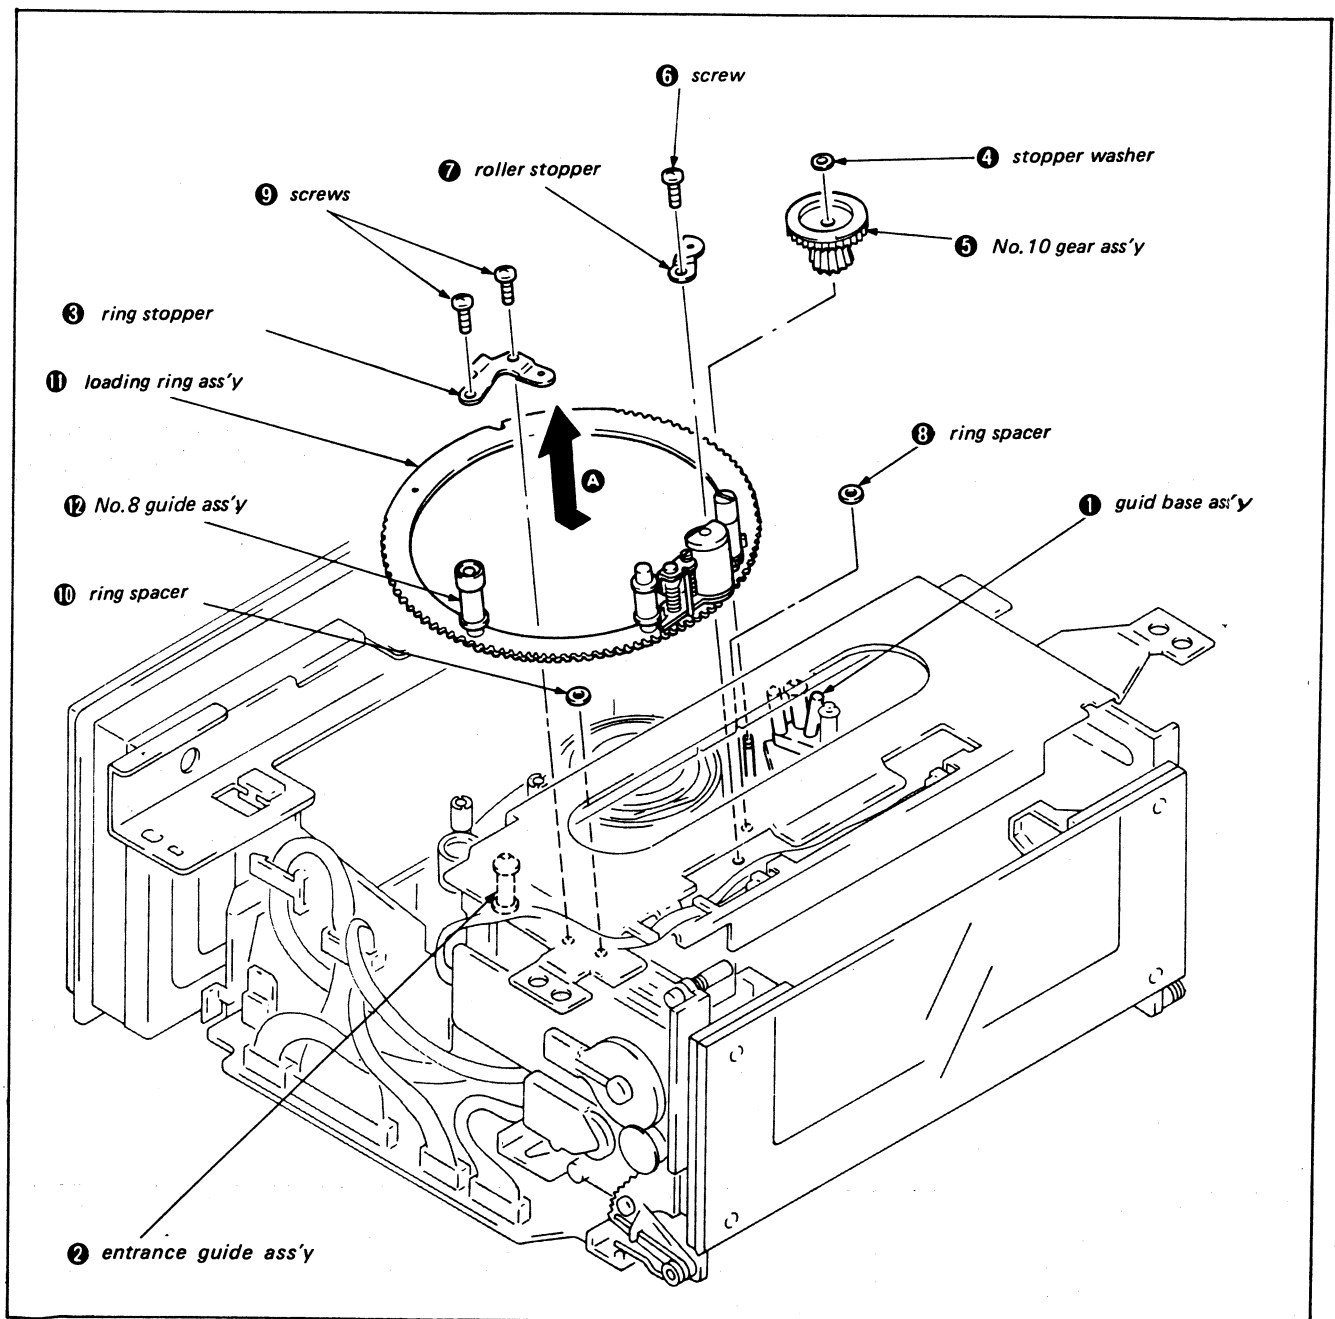
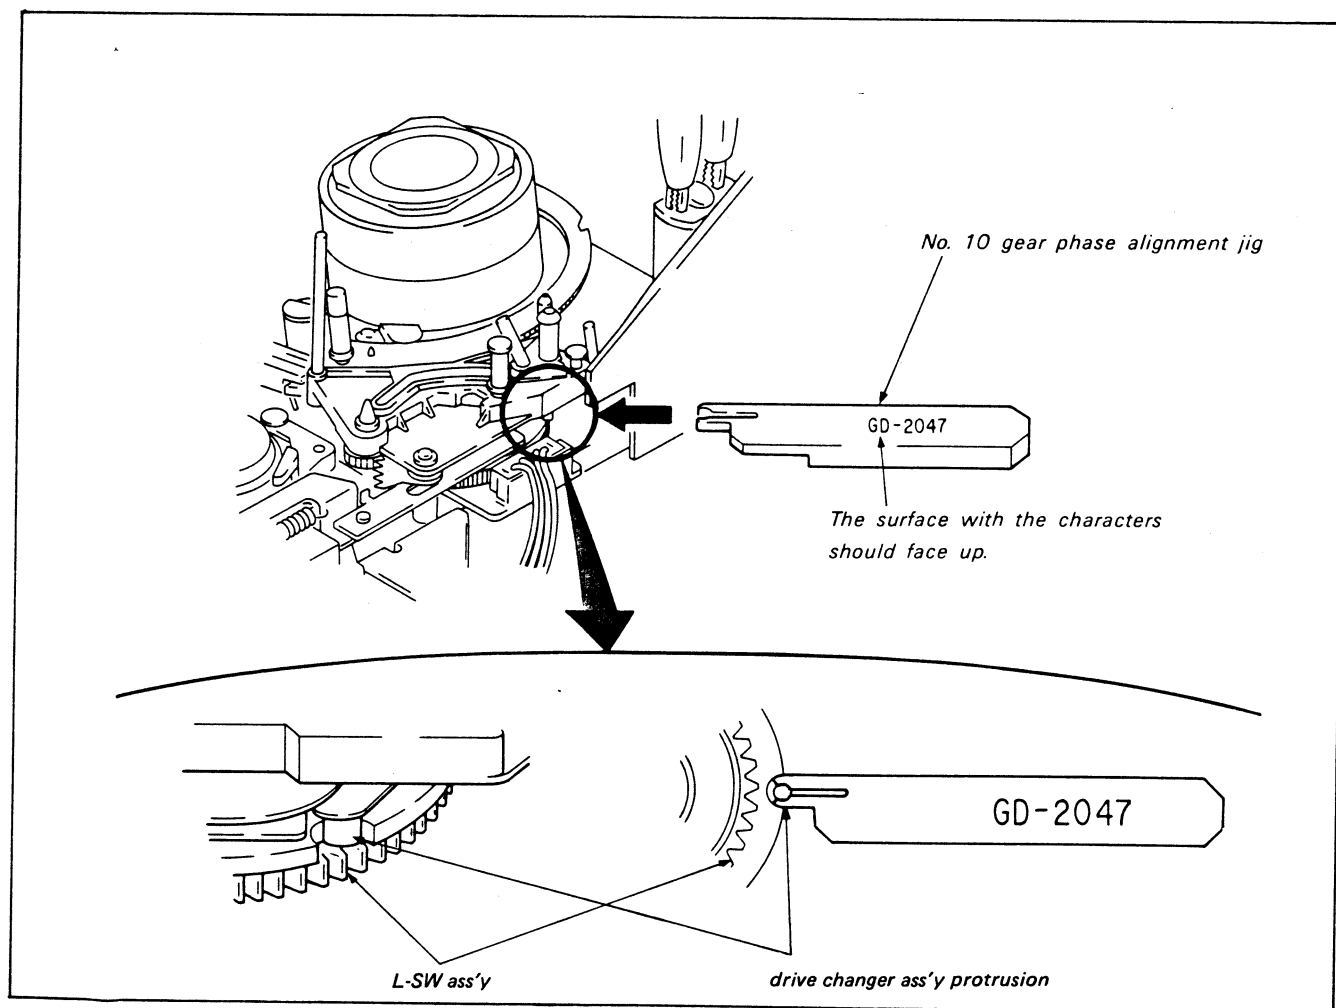
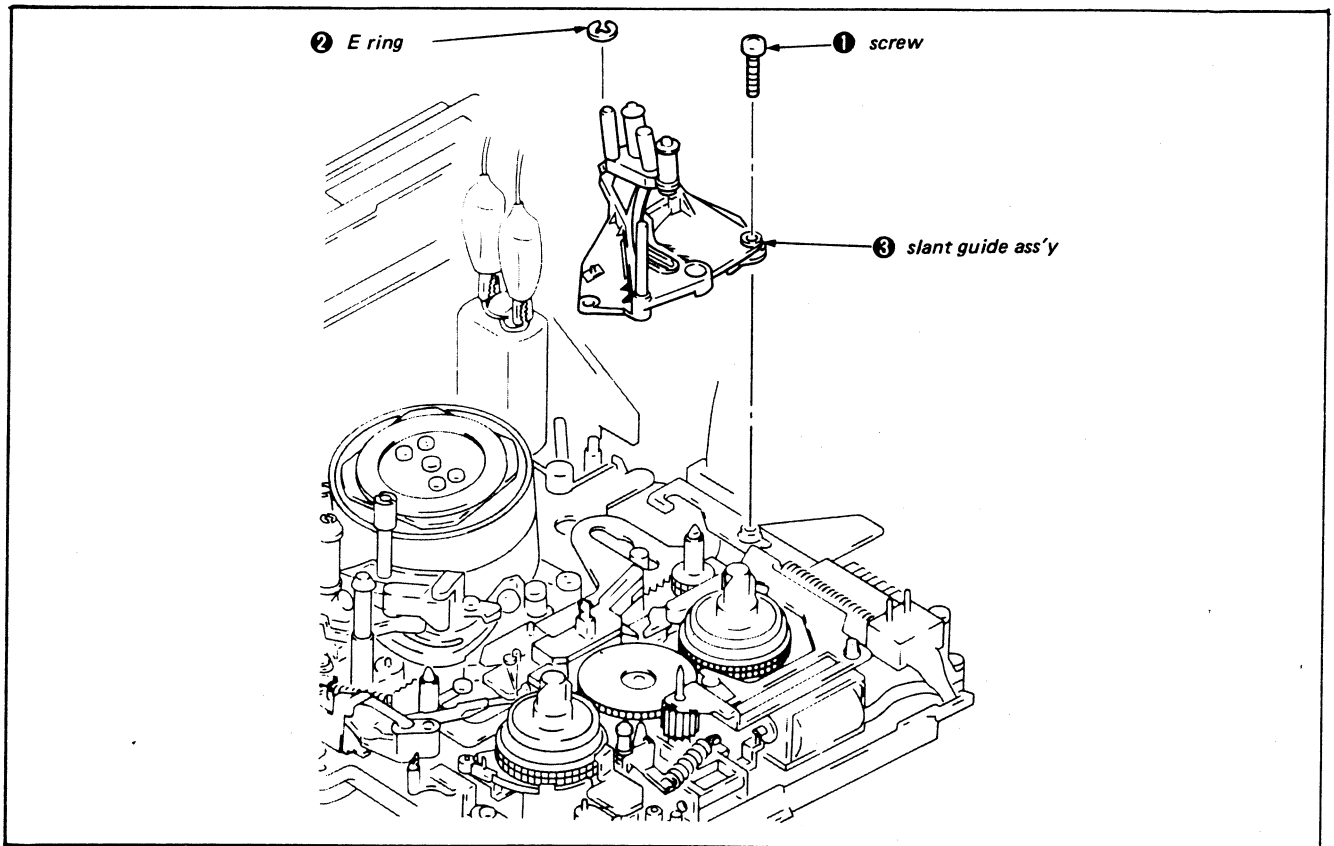

Fig. 3-8.
Fig. 3-9.
Fig. 3-22.
- 2) Operate the mode selector, and move the guide base assembly ① until just before lock, and the entrance guide assembly ② until just before lock where the ring stopper ③ screw is visible. (Do not move loading ring assembly ⑪).
- 3) Remove the stopper washer ④ and remove No. 10 gear assembly ⑤.
- 4) Remove screw ⑥ and the roller stopper ⑦ and ring spacer ⑧.
- 5) Remove the two screws ⑨ and the ring stopper ③ and ring spacer ⑩.
- 6) Remove the loading ring assembly as shown by arrow A. (Refer to Fig. 3-8)
- 1) Mount the loading ring assembly ⑪ so that it is in unthreaded state (pinch roller arm assembly is on the front panel side). (Check that is in the state in step 2) under Removal.)
- 2) Mount the ring spacer ⑩ and ring stopper ③ and tighten with the two screws ⑨. (No. 8 guide assembly ⑫ should be closer to the front panel than the ring stopper 3.)
- 3) Mount the ring spacer ⑧ and roller stopper ⑦ and tighten with screw ⑥. (Check that the loading ring assembly matches the three ring spacers.)
- 4) Place a half drop of oil on the shaft ⑬. (See Fig. 3-8)
- 5) Check that the protrusions on the drive changer assembly are in the indentations of the L-SW assembly and insert the No. 10 gear phase jig (Ref No. J-9). (See Fig. 3-9)
- 6) Mount No. 10 gear assembly ⑤ and stopper washer ④ while pushing the No. 8 guide assembly ⑫ against the ring stopper ③.
- 8) Set to **LOADING TOP** mode. (See Fig. 3-8)
- 1) Remove the loading ring assembly as described in 3-7., 1. Removal. (See Fig. 3-8)
- 6) Mount the loading ring assembly according to 3-7., 2. Mounting. (See Fig. 3-8)
- 2) Remove the loading ring assembly according to 3-7., 1. Removal. (See Fig. 3-8)
- 3) Remove screw ① and E ring ②.
- 4) Remove the slant guide assembly ③. (Refer to Fig. 3-22)
- 3) Mount the E ring ② and tighten screw ①. (Fig. 3-22)
- 5) Mount the loading ring assembly according to 3-7., 2. Mounting (Fig. 3-8)